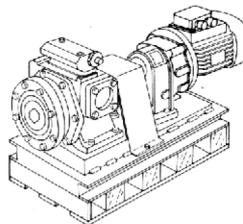

Fig. 2.3
- packaging on a pallet or with cardboard box is envisaged for domestic carriage (see figures 2.3 and 2.2 ).